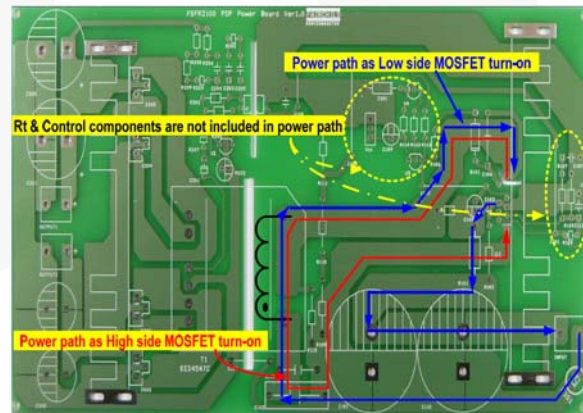

Figure 28. Example for Duty Balancing
**6. PCB Layout Guideline:** Duty unbalance problems may occur due to the radiated noise from main transformer, the inequality of the secondary side leakage inductances of main transformer, and so on. Among them, it is one of the dominant reasons that the control components in the vicinity of RT pin are enclosed by the primary current flow pattern on PCB layout. The direction of the magnetic field on the components caused by the primary current flow is changed when the high and low side MOSFET turns on by turns. The magnetic fields with opposite direction from each other induce a current through, into, or out of the RT pin, which makes the turn-on duration of each MOSFET different. It is highly recommended to separate the control components in the vicinity of RT pin from the primary current flow pattern on PCB layout. Figure 28 shows an example for the duty balanced case.